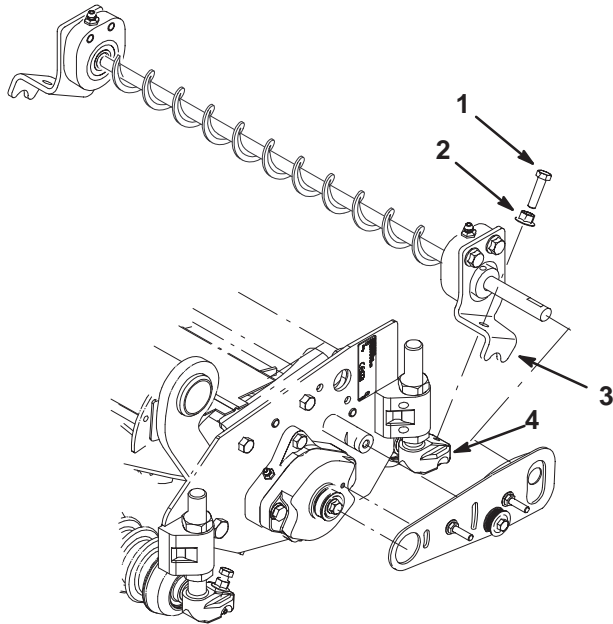

Figure 10
16. Thread a 5/16" flange nut onto (2) 5/16-18 x 1" lg. bolts as shown in figure 10.
17. Position roller brush assembly onto support rods, aligning mounting holes and inserting key way end of roller brush shaft through opening in guard plate and pivot plate (Fig. 10).
18. First, secure roller by threading the (2) 5/16–18 x 1” lg. bolts thru roller brush brackets and into support rods. Do not tighten flange nuts at this time. Insure roller is centered between support rods (Fig. 10).
19. Second, tighten flange nuts locking roller brush brackets to support rods. Insure brackets are parallel with side plates (Fig. 10).